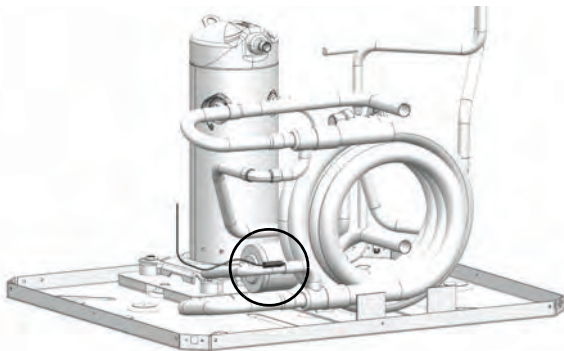

Fig. 45 — Water-Side Freeze Protection Sensor
- Evaporator freeze protection sensor, mounted between the thermal expansion device and the evaporator, monitors refrigerant temperature between the evaporator coil and thermal expansion valve. If temperature drops below or remains at freeze limit trip for 30 seconds, the controller will shut down the compressor and enter into a soft lockout condition. The default freeze limit trip is 30°F. (See Fig. 45 and 46.)